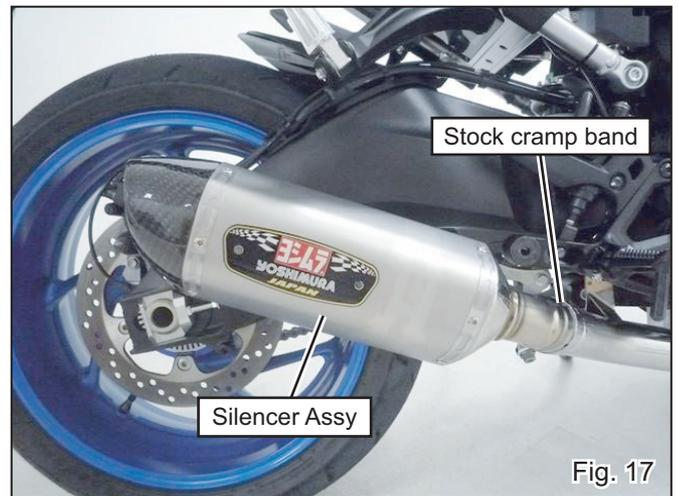

Fig. 17
- 17) Install Silencer Assy removed at step 2) with stock clamp band to Tailpipe. Tighten the bolt on stock clamp band by hand only at this stage. (See Fig. 17)